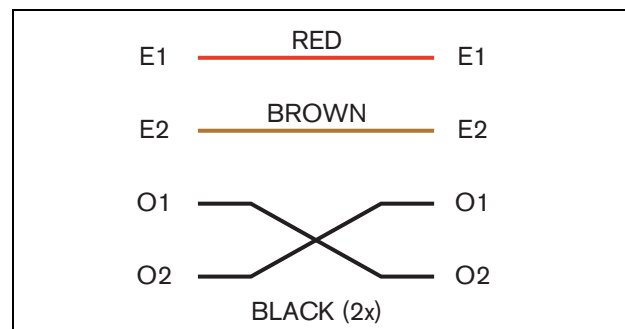
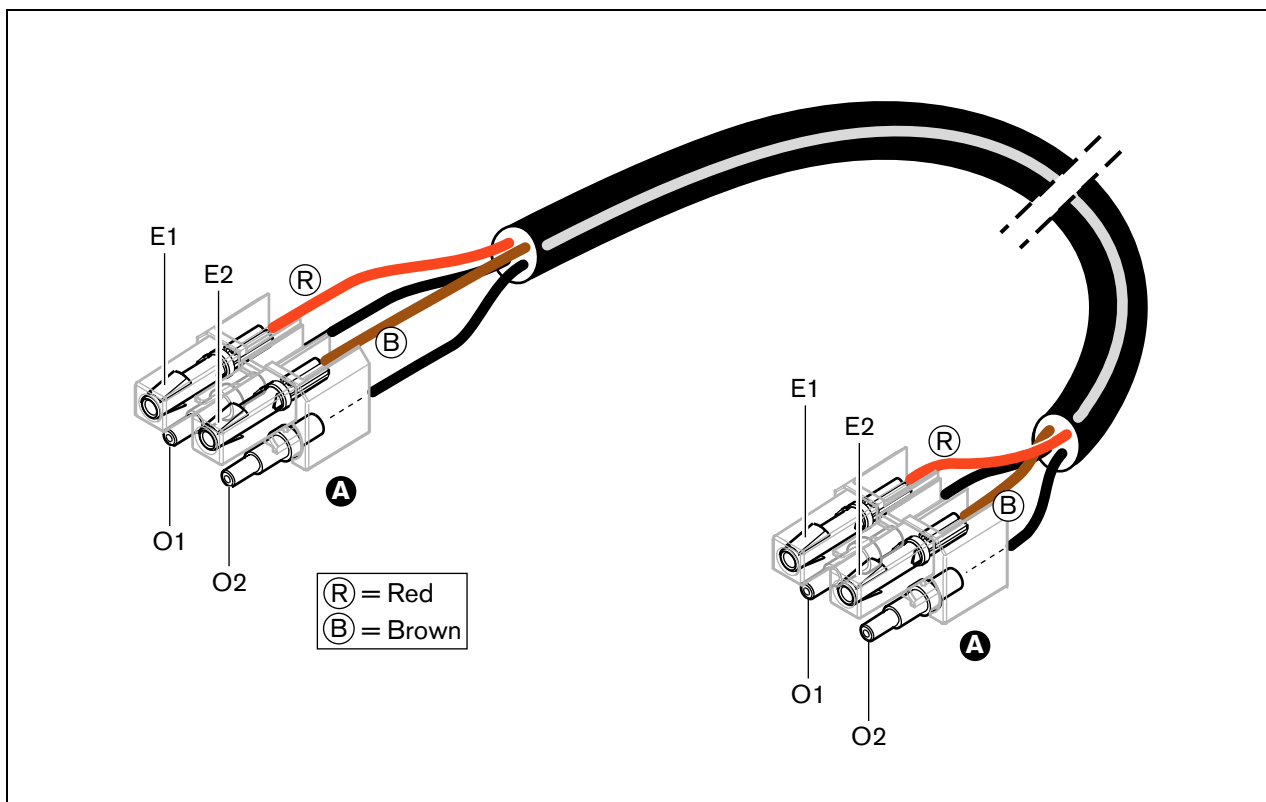
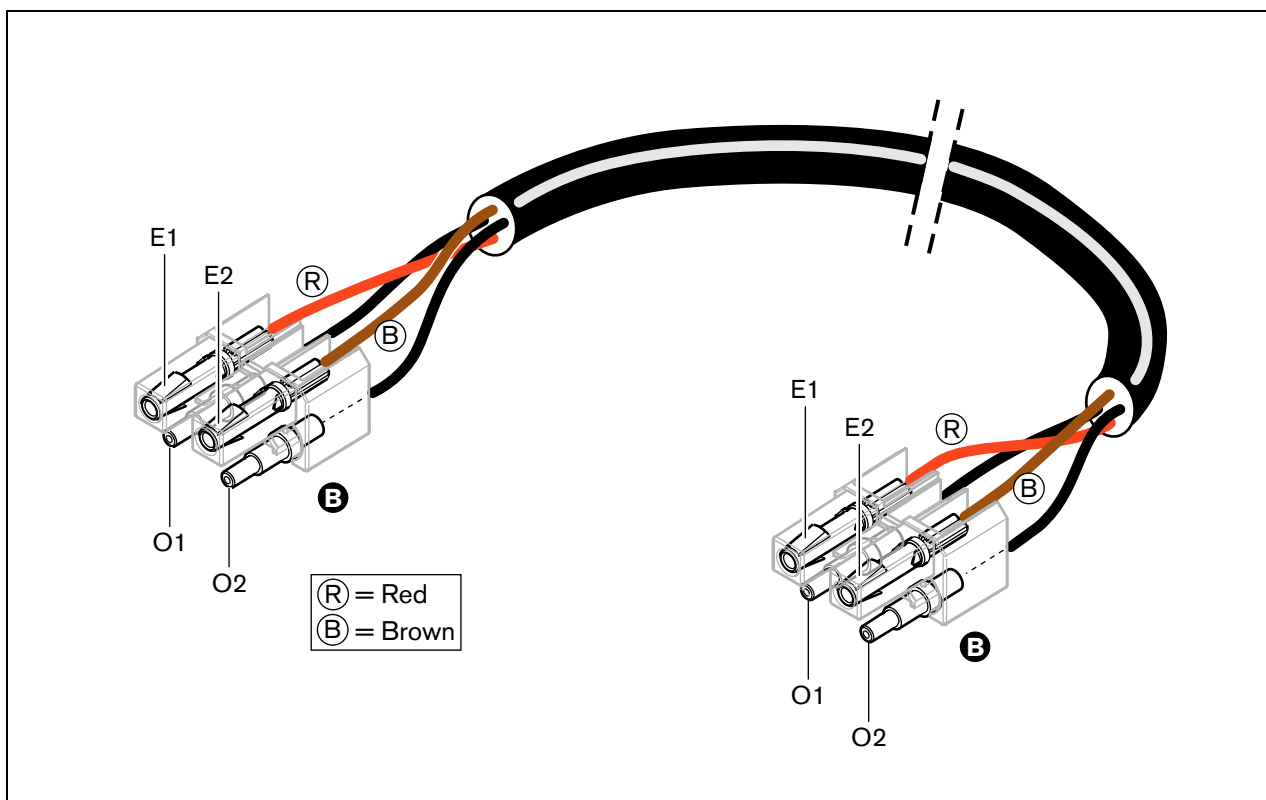
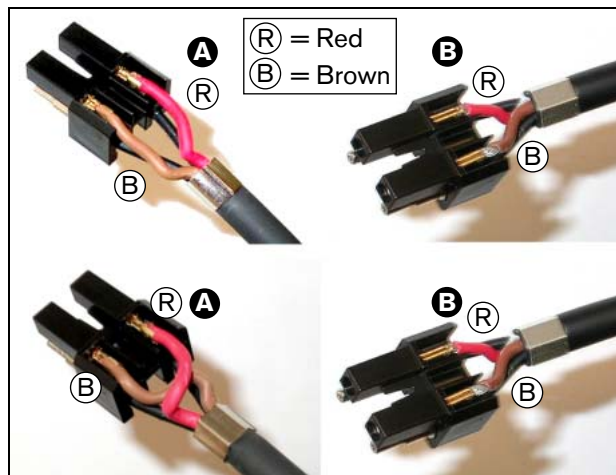

figure 3.24: Wiring diagram
figure 3.25: Wiring diagram applied to type A optical network cables
figure 3.26: Wiring diagram applied to type B optical network cables
figure 3.29: Mounting block and back housing
Also, observe the wiring diagram (see figure 3.24). For the practical implications of this diagram, see figure 3.25 and figure 3.26).
- 28 Put the socket contacts in the mounting block (see figure 3.29). In one of the connectors attached to a type A cable, the red and brown copper wires must cross to meet the wiring diagram (see figure 3.24).